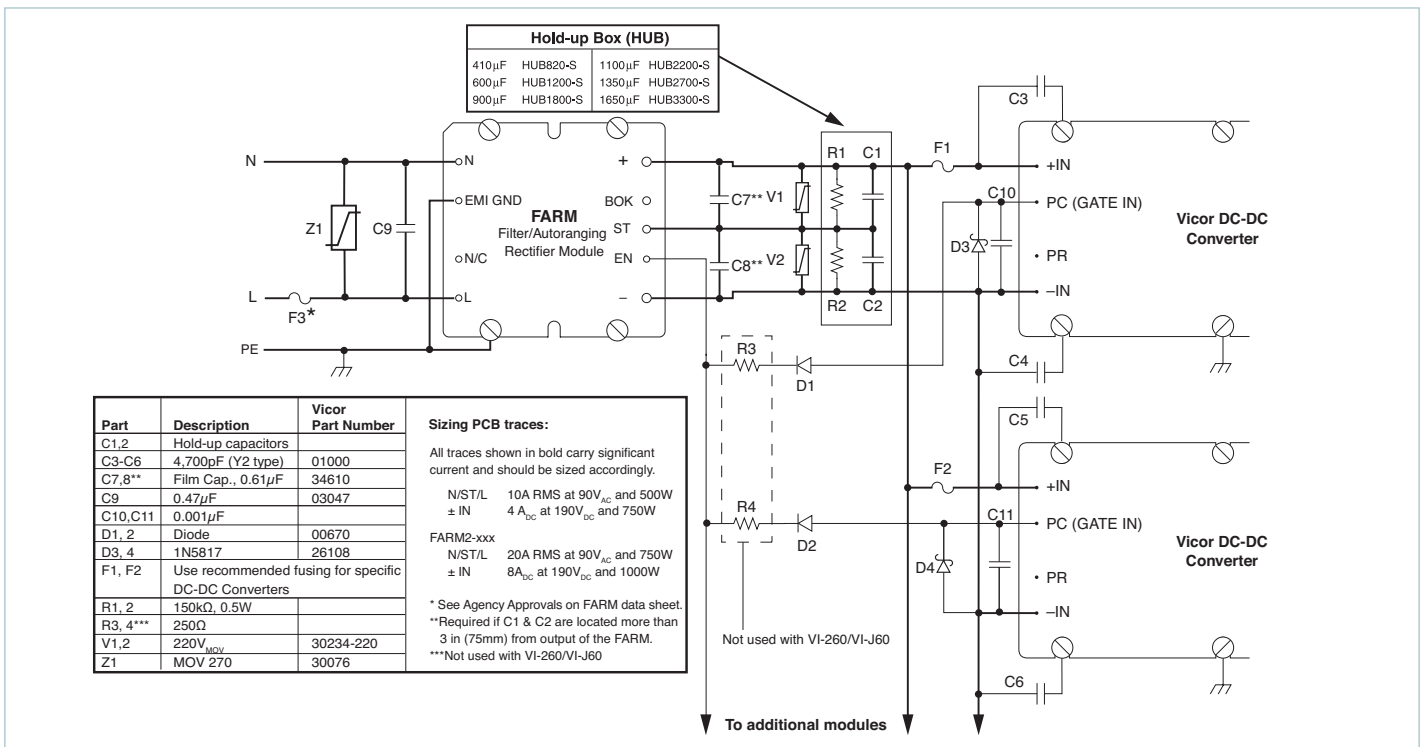

Figure 9 — Offline Power Supply Configuration
Strap (ST) Pin: In addition to input and output power pin connections, it is necessary to connect the Strap pin to the center junction of the series hold-up capacitors (C1, C2, see Figure 9) for proper (autoranging) operation. Metal oxide varistors, V1 and V2 provide capacitor protection. The bleeder resistors (R1, R2, see Figure 9) discharge the hold-up capacitors when power is switched off. Capacitors C7 and C8 are recommended if the hold-up capacitors are located more than 3 inches (75mm) from the FARM output pins.
It should be noted that the series combination (C1, C2, See Figure 9) requires each capacitor to be twice the calculated value, but the required voltage rating of each capacitor is reduced to 200V. Allowable ripple voltage on the bus (or ripple current in the capacitors) may define the capacitance requirement. Consideration should be given to converter ripple rejection and resulting output ripple voltage.